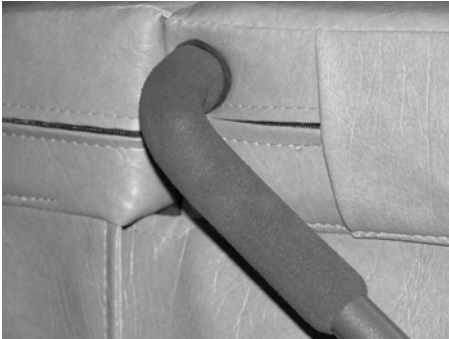

Figure 5
9. Slide **Foam Hand Grips** up to compress **Rubber Gaskets** against the cover. (Figure 5)